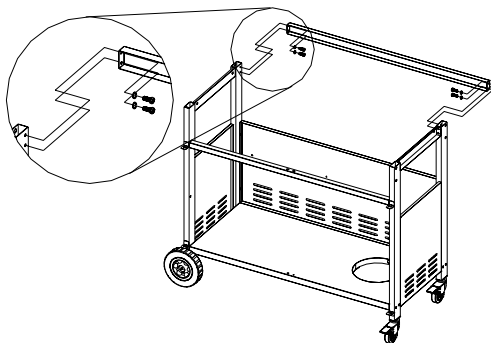

Figure 7
2. Attach the rear cart frame beam to grill cart using (4) 5/32 x 3/8" Phillips head screws and (4) 5/32" lock washers. (Fig.7)